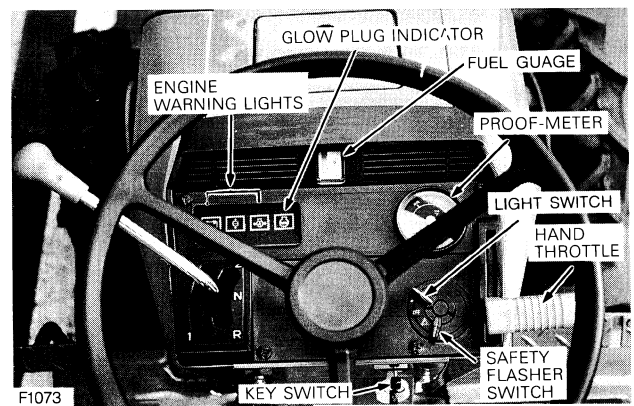

Figure 5 – Instrument Panel
The key switch is shown in Figure 5. Turning the key to the left will activate the cold-start aid. Turning the key to the right to the "on" position will activate the warning lights and instruments. Turning the key further right to the "start" position will start the engine. Upon release, the key will spring return to the "on" position.
The engine temperature, oil pressure and charge indicator warning lights are located as shown in Figure 5. When the key switch is turned "on" the oil pressure and charge lights come on. After the engine has been started, the lights should go out within a few seconds. If they do not go out :
The Proof-Meter is located on the left side of the instrument panel, Figure 5. The Proof-Meter indicates :
- Engine revolutions per minute are indicated on a scale as shown in Figure 5. Use the engine revolutions per minute scale when operating PTO-driven equipment. PTO-driven equipment must be operated at an engine speed not to exceed, that indicated by the yellow line on the rpm scale (2385 rpm on mechanical-transmission tractors, 2300 with hydrostatic transmission). Additional information on P. T. O. operation can be found on page 16. Ground speeds are indicated on a decal attached to the instrument panel (H. S. T.) or to the top of the left fender (mechanical transmission tractor) with engine speeds from 1500 to rated rpm. Additional ground speed information can be found on page 52. The decal on hydrostatic transmission tractors shows ground speed for both ranges.
The hand throttle is shown in Figure 5. Push the throttle forward to increase engine rpm. Pull the throttle rearward to decrease engine rpm. Turning the key switch to the "OFF" position stops the engine.